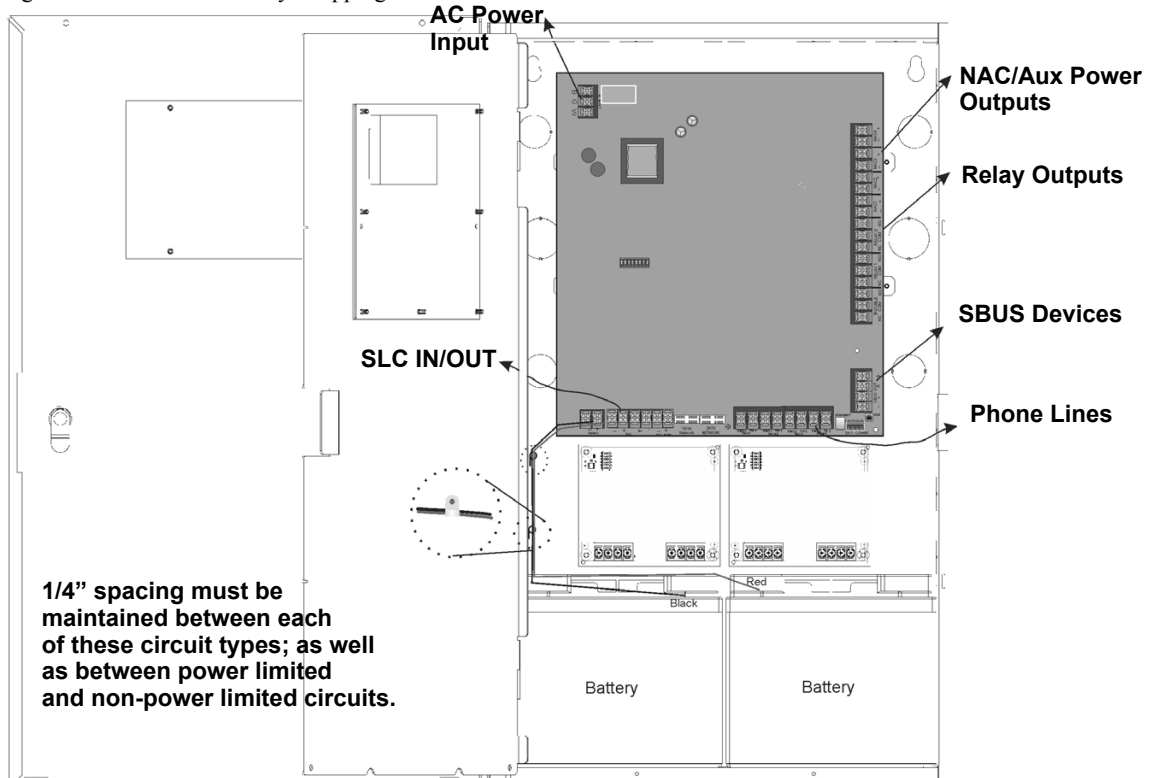

Figure 3.1 Wire Routing Example for IFP-300
- Route the wiring around the inside perimeter of the cabinet. It should not cross the circuit board where it could induce noise into the sensitive microelectronics or pick up unwanted RF noise from the high speed circuits. See Figure 3.1 for an example.